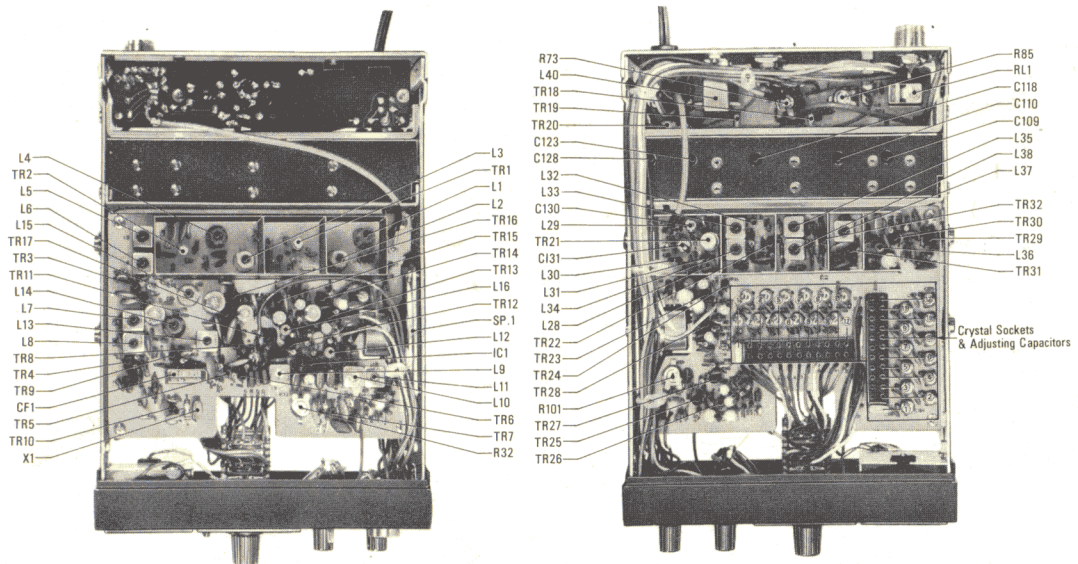

Figure 1
Trimmers have been placed on the crystal board to assist you in adjusting new crystals on frequency. Consult the trimmer location chart (Fig. 1) for their positions.
- d. To align the transmitter on a desired frequency, switch the channel control to the desired channel. Slowly adjust the trimmer capacitor for that channel until the desired frequency is achieved. Consult Fig. 1 for the location of the proper trimmer. These trimmers should be adjusted very slowly while the transmit frequency is observed on suitable measuring equipment. Another 13-509 equipped with a discriminator meter can serve well for this purpose. However it must be adapted.